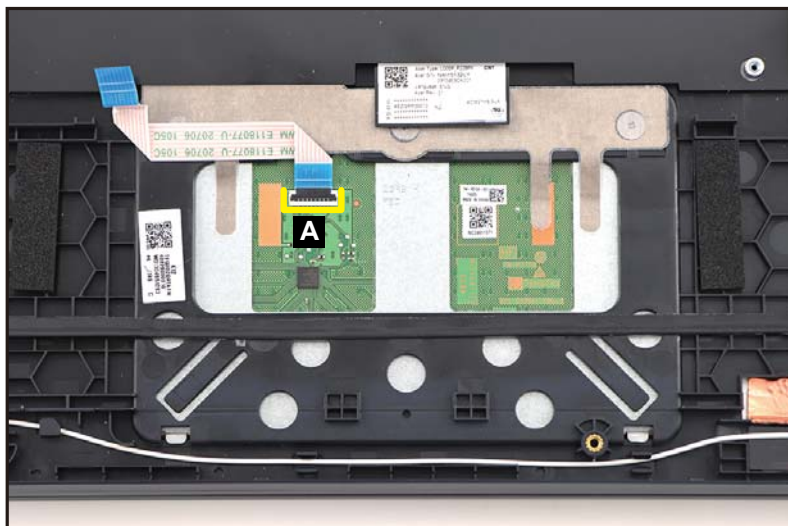

Figure 1-32. Touchpad Module Removal
1. Disconnect the touchpad FFC from the touchpad module connector (A) (Figure 1-32).